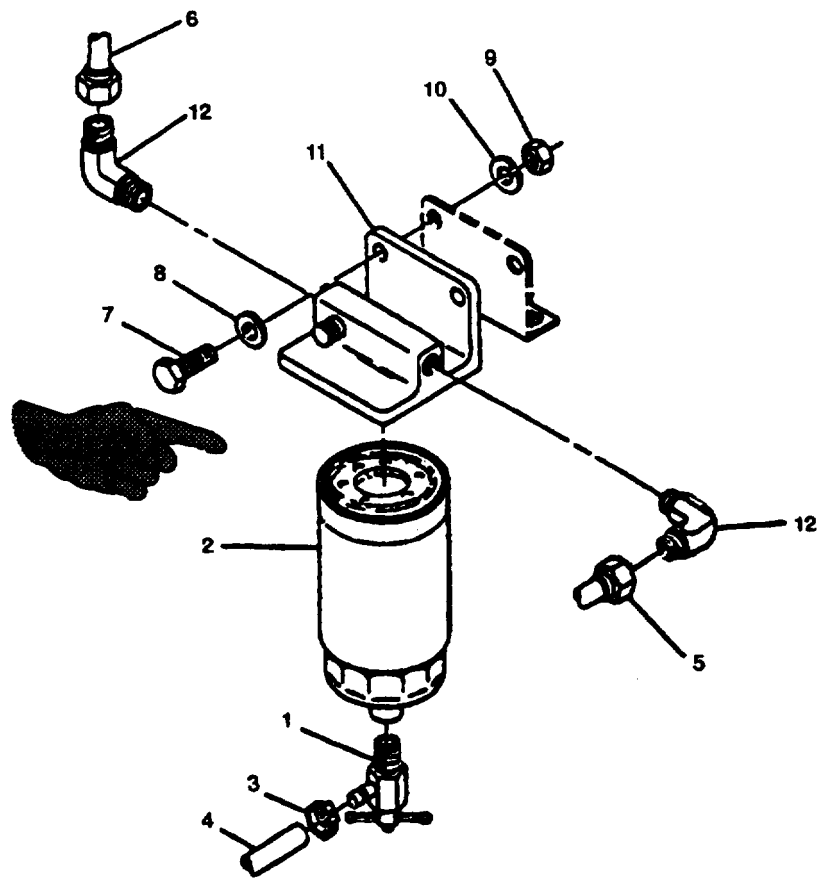

FIGURE 2-28. Fuel Filter/Water Separator
- c. Open water drain valve (1, FIGURE 2-28) and drain all water from fuel filter/water separator.
- d. Loosen damp (3) and disconnect drain tine (4).
- d. Loosen damp (3, FIGURE 2-28) and disconnect water drain line (4) from fuel filter/water separator.
- e. Disconnect fuel lines (5) and (6).
- f. Remove bolts (7), flatwashers (8), nuts (9), lockwashers (10), and fuel filter/water separator head (11) with element (2).
- d. If damaged or if replacing fuel filter/water separator, remove and retain elbows (12, FIGURE 2-28) from head (11).
- e. Install elbows (12).
- b. Install fuel filter/water separator head(11, FIGURE 2-28) with nuts (9), lockwashers (10), bolts (7), and flatwashers (8).
- c. Install fuel lines (5) and (6).